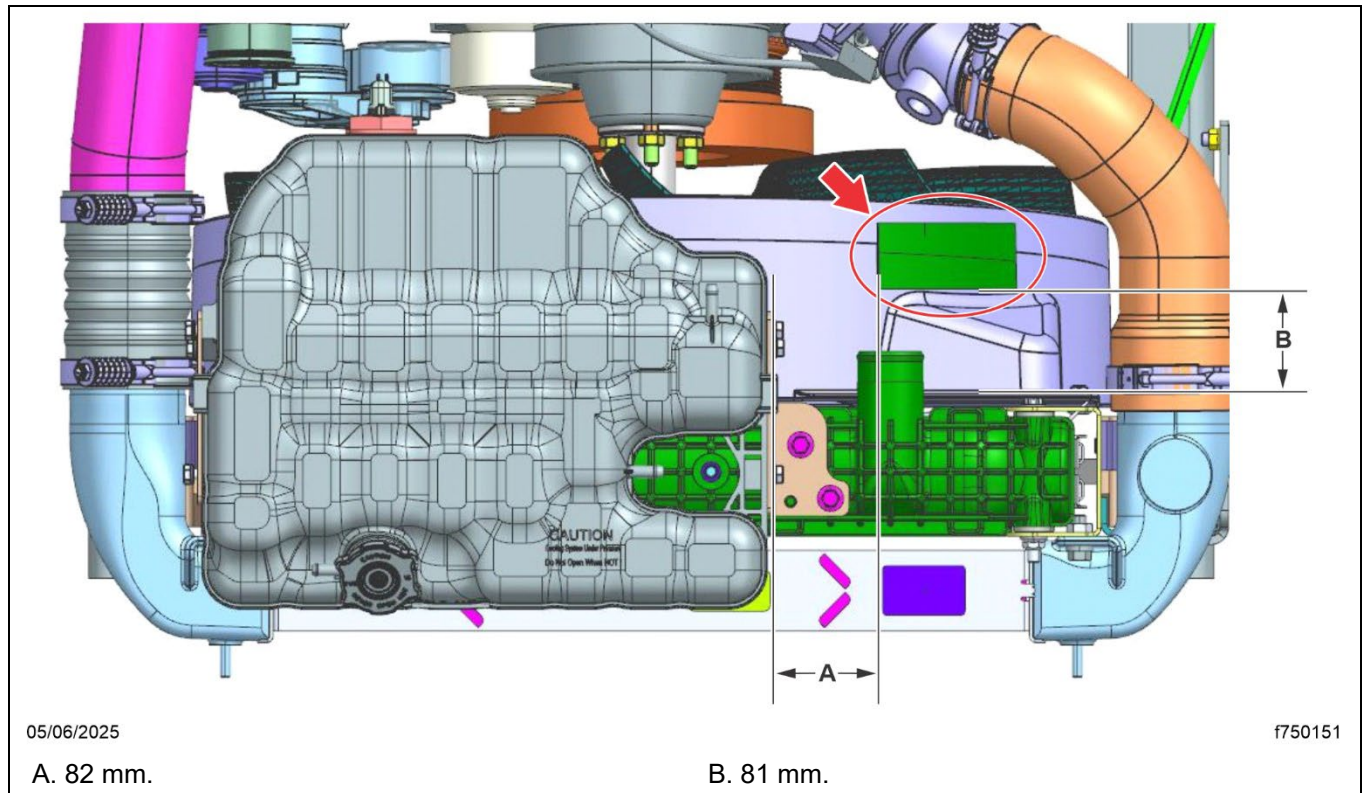

Fig. 2, GHG Label, MT45/MT55 Chassis
- MT45/MT55 Chassis → The label is installed on the fan shroud, located using the measurements shown in Fig. 2.